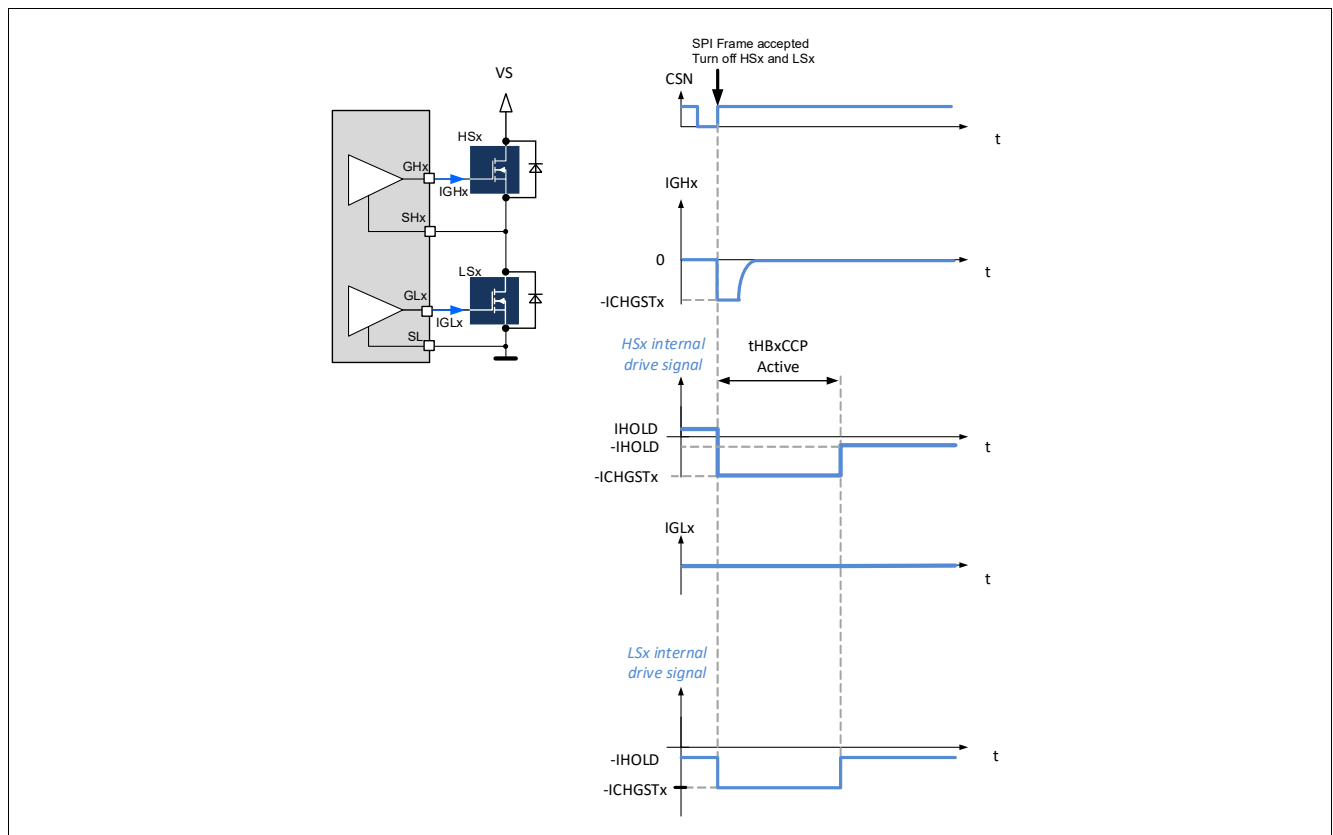

Figure 38 Turn-off of the high-side and low-side MOSFETs of a half-bridge
- The gate of HSx and LSx are discharged with the current $-ICHGSTx$ for the duration $t_{HBxCCP\ ACTIVE}$ (Figure 38).